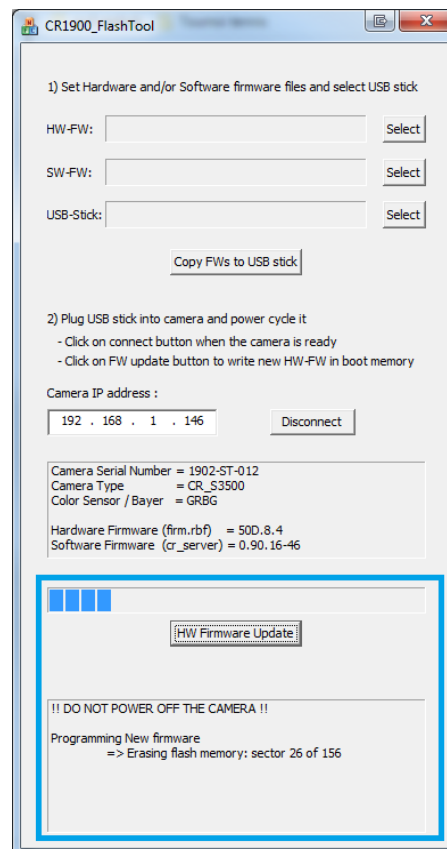
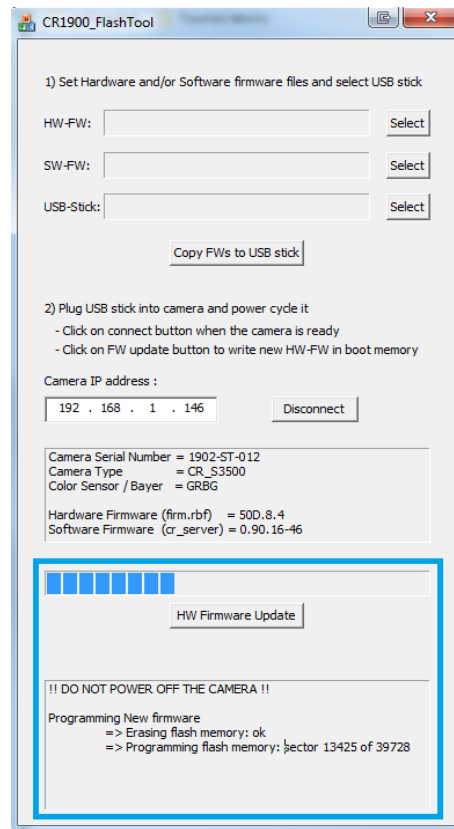

Figure 32: HW Update progressing 1/2
Figure 33: HW Update progressing 2/2
4. Click on “HW Firmware Update” button and wait (see Figure 32 and Figure 33). Update process takes ~8 minutes.